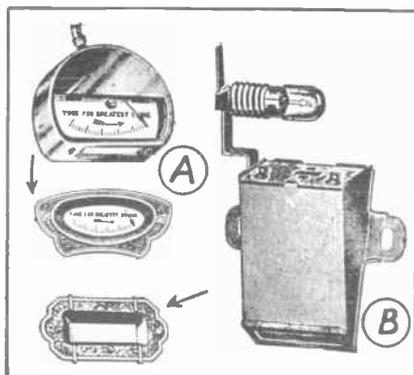

FIG. 1
*Connecting the Parts.* The parts you need are: A milliammeter (resonant tuning meter) and perhaps a .1 mfd. (450 volts) non-inductive bypass condenser. The tuning meters may be obtained in several different milliamperage sizes and designs, as you will see in Fig. 1. When one tube is under control use a 5 ma. meter; when two tubes are under control, use the 10 ma. size; when three or four tubes are controlled use the 15 ma. size. Although there are several designs, the two more common ones which I would suggest are shown. The most popular type is shown at A, and may be illuminated from the back or bottom. A pilot light should be installed; if the light from the tuning dial does not show through. Figure 1B shows the popular shadow-graph design. Light from the rear lamp (shown) is interrupted by a vane, casting a shadow on the scale. The set is tuned for the narrowest shadow. Use the oval escutcheon (panel ornament) for the needle meter, and the rectangular escutcheon for the shadow graph indicator.